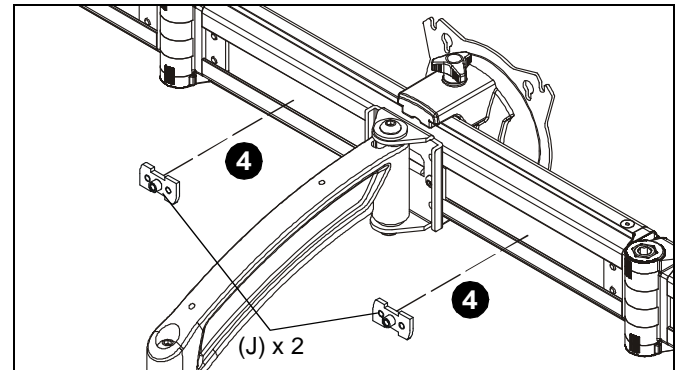

Figure 8
4. (K4W310 only) Insert two channel attachments (J) into back of array center (BB). Attachments must be turned horizontally in order to fit into channel. (See Figure 8)